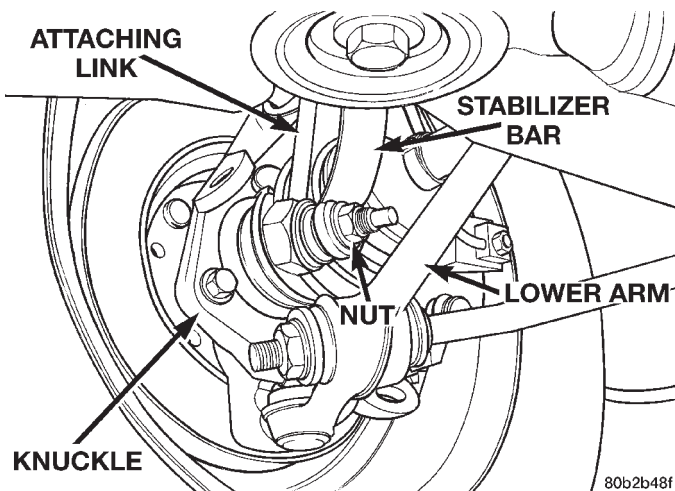

**Fig. 51 Stabilizer Bar At Left Attaching Link**
(5) Remove the left stabilizer bar attaching link nut at the stabilizer bar (Fig. 51). Remove the attaching link from the stabilizer bar.
(8) Install left side stabilizer bar attaching link to left end of stabilizer bar (Fig. 51). Install attaching nut and tighten to 95 N·m (70 ft. lbs.).